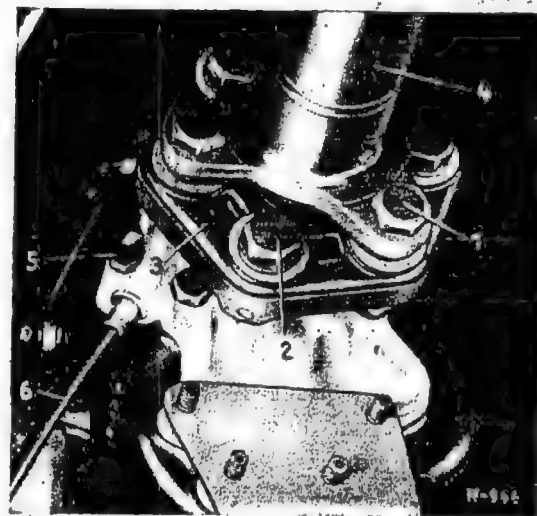

Fig. 41-1/2
- 18 Hexagon screws for fastening the support (12) to the chassis base panel
- 21 Hexagon screws for the exhaust pipe support bracket (23)
2. Unscrew the castle nuts or self-locking nuts of the fitted screws (1) and (2) from the three-way flange of the transmission and from the shaft plate (3). Remove the screws together with the washers (Fig. 41-1/2).
3. After tapping up the locking plates (2), unscrew the hexagon nuts (3) of the four cheese head screws (1) which fasten the rear propeller shaft to the joint flange of the rear axle and remove the screws (Fig. 41-1/3).